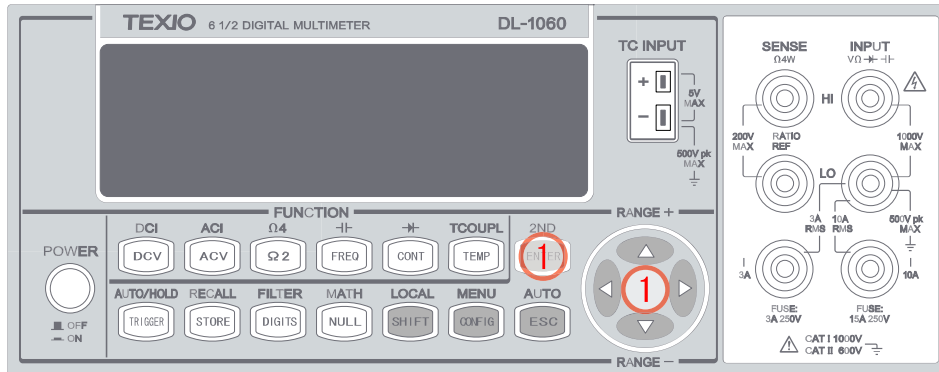

Figure 3-5
1. After enabling the filter (see above), use ◀ and ▶ buttons to locate “READINGS”. Press ENTER to select it. Use ◀ and ▶ to move through the digits and ▲ and ▼ buttons to increase or decrease the number to a desired value (from 2 to 100). Press ENTER to set the value. Press ENTER in “RUN” to start reading as shown in **Figure 3-5**.